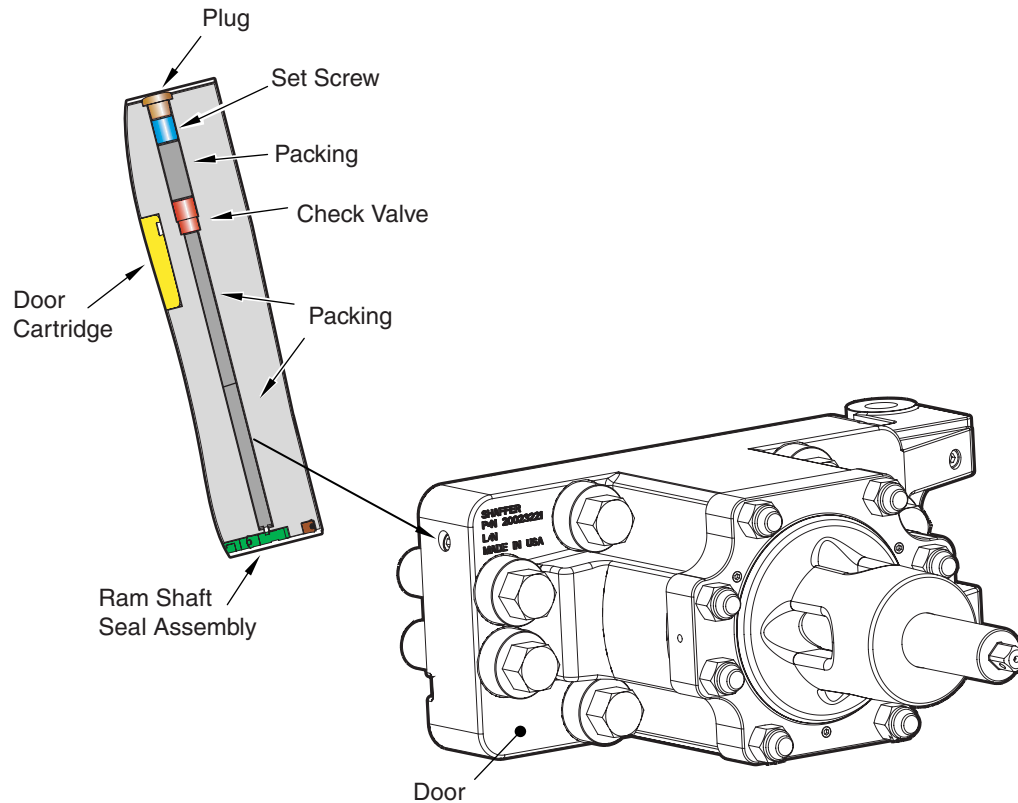

Figure 4-13. Secondary Packing
2. With the pipe plug removed, a second socket head screw plug is exposed. Tighten this to inject the secondary ram shaft seal. See Figure 4-13.